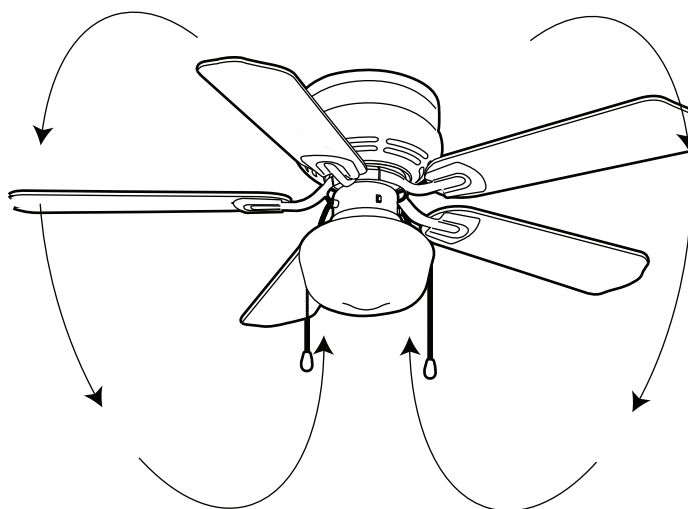

Figure 18
**Cool weather – (Reverse)** An upward airflow moves warm air off the ceiling area as shown in Figure 18. This allows you to set your heating unit on a lower setting without affecting your comfort.